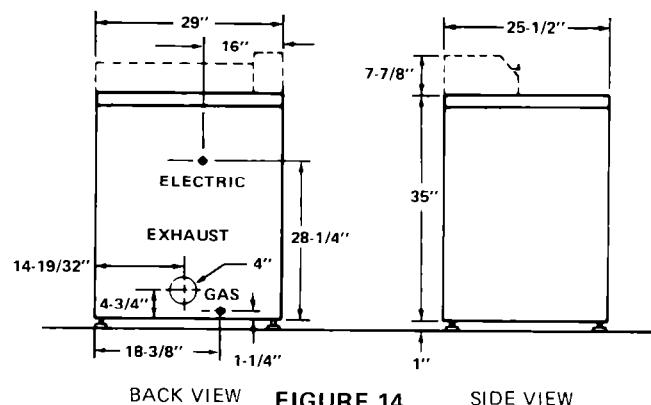

FIGURE 14
5. Exhaust outlet at rear of the dryer is located as shown in Figure 14. Detailed instructions on spacing for side and rear clearances can be found in the section "Instructions for Recessed or Closet Installations." Information on minimum spacing side to side and to the rear is also found on a label located on back panel.